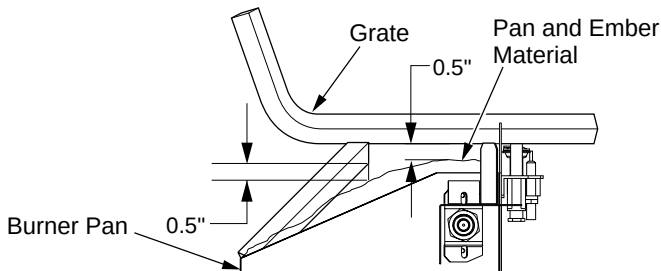

Figure 24 - Pan and Ember Material Clearances (P325/VP325 Models Shown)
4. Place just enough to cover the entire surface and leave about a 1/2 inch gap under the lower grate members to allow air to flow (see Figure 24, page 13).